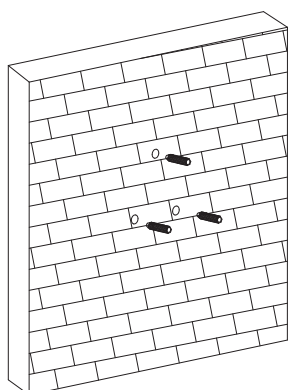

Fig. 3
3.2 Install three anchors into the screw holes on the wall. (Fig.3)